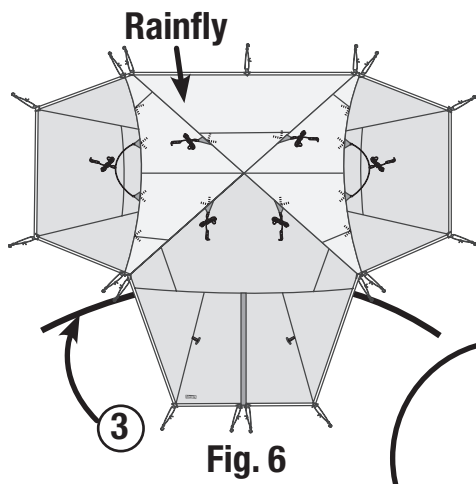

Fig. 6
- Insert vestibule pole into pole sleeve located on underside of rainfly. (Fig. 6)